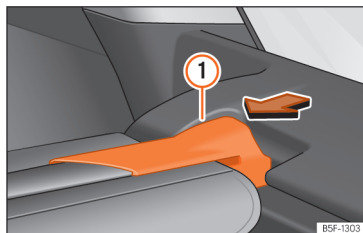

Fig. 185 In the luggage compartment: remove the shelf.
- Press the rear shelf support »» **Fig. 185** ① in the direction of the arrow.
- Engage the support of the rear shelf >>> **Fig. 185** ① into the housing on the other side.